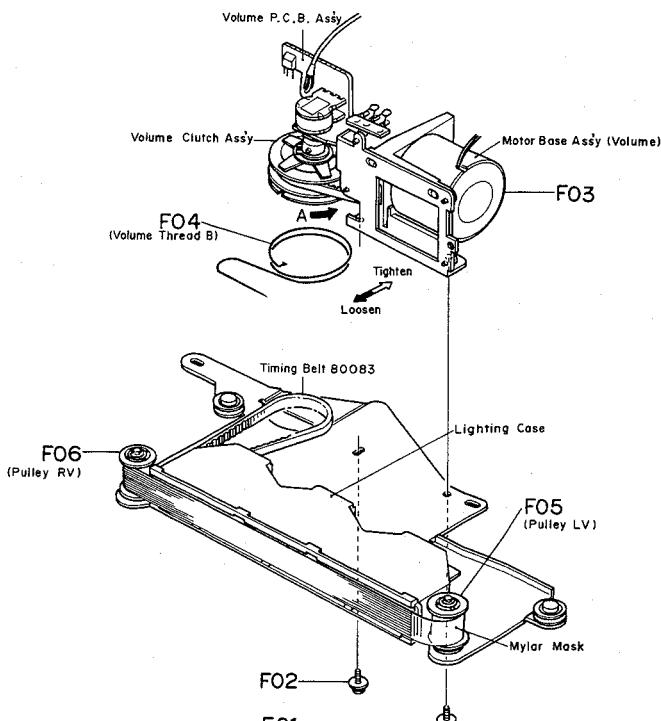
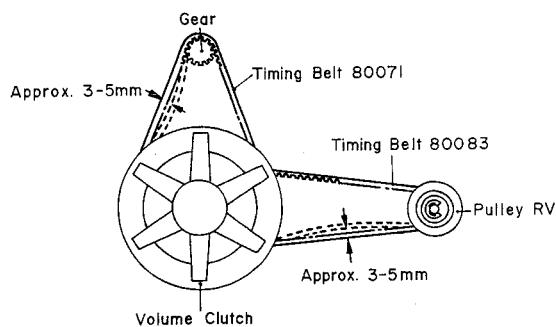

Fig. 5.2.3
Fig. 5.2.9
- Remove the Front Panel Ass'y, referring to item 3.3, removal of Front Panel Ass'y.
- Remove the Volume Control Ass'y, referring to item 3.10.
- Remove F01 and F02 shown in Fig. 5.2.3, and detach the Motor Base Ass'y (Volume) F03.
- Referring to Fig. 5.2.3, turn the Volume Clutch manually in direction A until it stops.
(8) Refer to Figs. 5.2.3 and 5.2.9. Loop the Timing Belt 80083 around the Volume Clutch of the Motor Base Ass'y (Volume), and assemble it with Volume Control Base Ass'y by screws F01 and F02.
Adjust the tension of the Timing Belt 80083 by loosening F01 and F02 of Fig. 5.2.3. And make sure that the tension is such that it can be depressed by 3 – 5 mm when it is lightly pushed with the finger as shown in Fig. 5.2.9.
(9) Refer to Figs. 5.2.9 and 5.2.10. Adjust the tension of the Timing Belt 80071 between the Volume Clutch and the Motor Gear, so that it is depressed by 3 – 5 mm when it is lightly pushed with the finger as shown in Fig. 5.2.9.